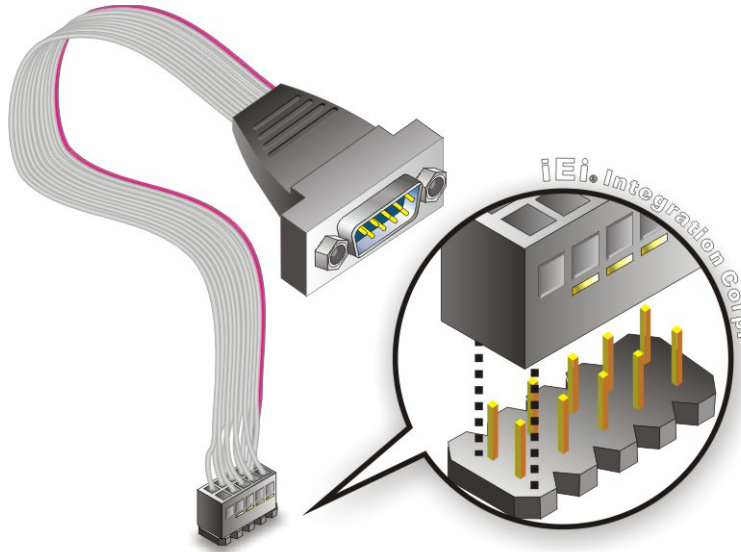

Figure 4-17: Single RS-232 Cable Installation
- Step 2: Insert the cable connector.** Insert the connector into the serial port box header. See Figure 4-17. A key on the front of the cable connectors ensures the connector can only be installed in one direction.